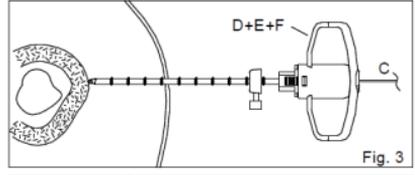

Fig. 3
FIG. 3 Withdraw the Anesthesia Needle (A), while holding the Guide Wire (C) firmly against the bone. Place the assembled Cutting Cannula with Grooved Stylet and optional Handle (D+E+F) over the Guide Wire (C).